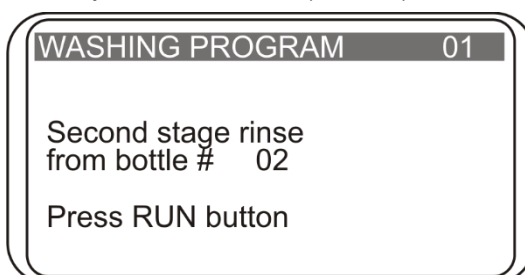

Fig. 8. Choosing the bottle number for rinse on the second channel
- 4.17. If 4-channel washing solution weight logger is connected to the unit, then during operation, display shows program number, currently used bottle number, the number of cycles left and the remaining volume percentage of liquid in the bottles (fig. 8). For the waste bottle, filled liquid amount is displayed accordingly based on 2-litre bottle volume percentage.